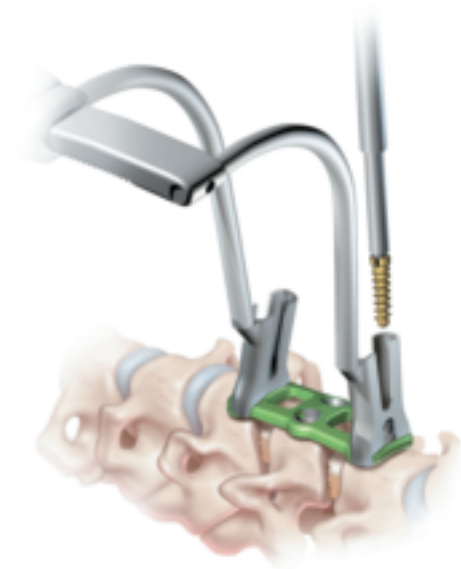

Figure 10d
6. Attach screws to the self-retaining driver and insert through the drill guide into the prepared screw site. Screw progress will be visible through the windows in the guide. Advance the screw until resistance is felt, do not tighten fully. Repeat awl or drill/screw insertion for the remaining screws, alternating between opposite corners of the plate (Figure 10d).